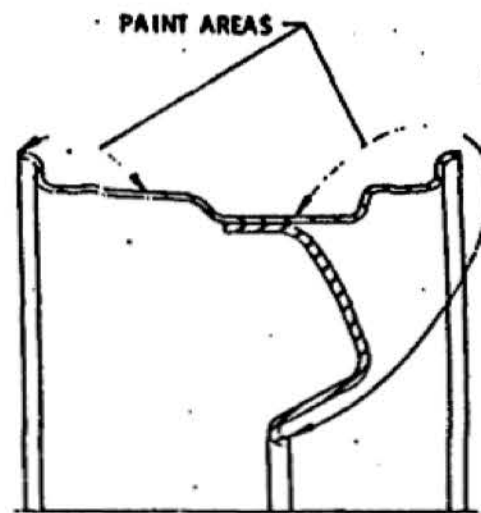

FIG. 3 N66 WHEEL ONLY
**(C)** N66 WHEELS ARE TO BE PAINTED DARK GRAY LOW GLOSS ENAMEL CODE #372 IN AREAS SHOWN. (SEE FIG. 3)
**(F)** W45 WHEELS TO BE PAINTED SEBRING YELLOW IN AREAS SHOWN (SEE FIG. 3)